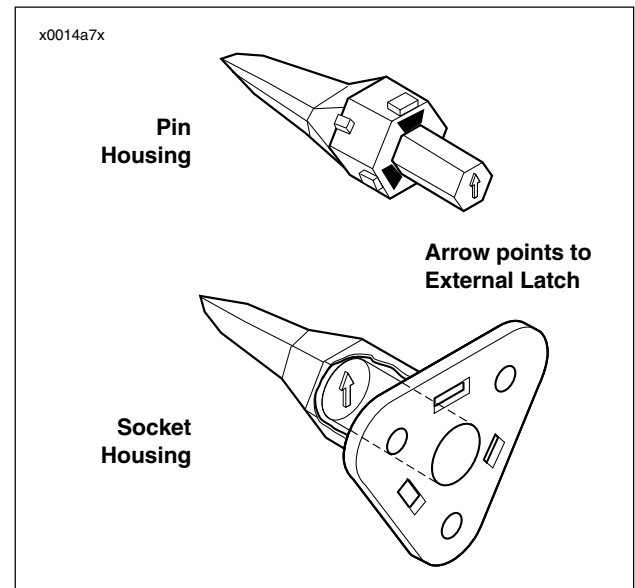

Figure 7-75. 3-pin Locking Wedge Orientation
- The conical secondary locking wedge of the 3-pin connector must be installed with the arrow pointing toward the external latch. See Figure 7-75.